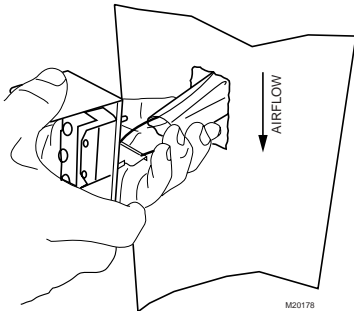

Fig. 13. Inserting sail switch in direction of airflow.
- Press together the sides of the wire loop. Insert the sail into the duct. (When in the Off position, the sail should point into the direction of airflow as shown in Fig.13.)